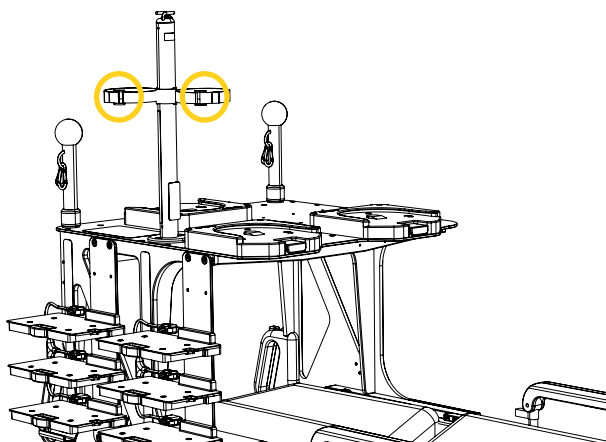

Figure 62: Techni-IV pole installed
8. Adjust the size of the harness using the buckles (Figure 62) if needed.